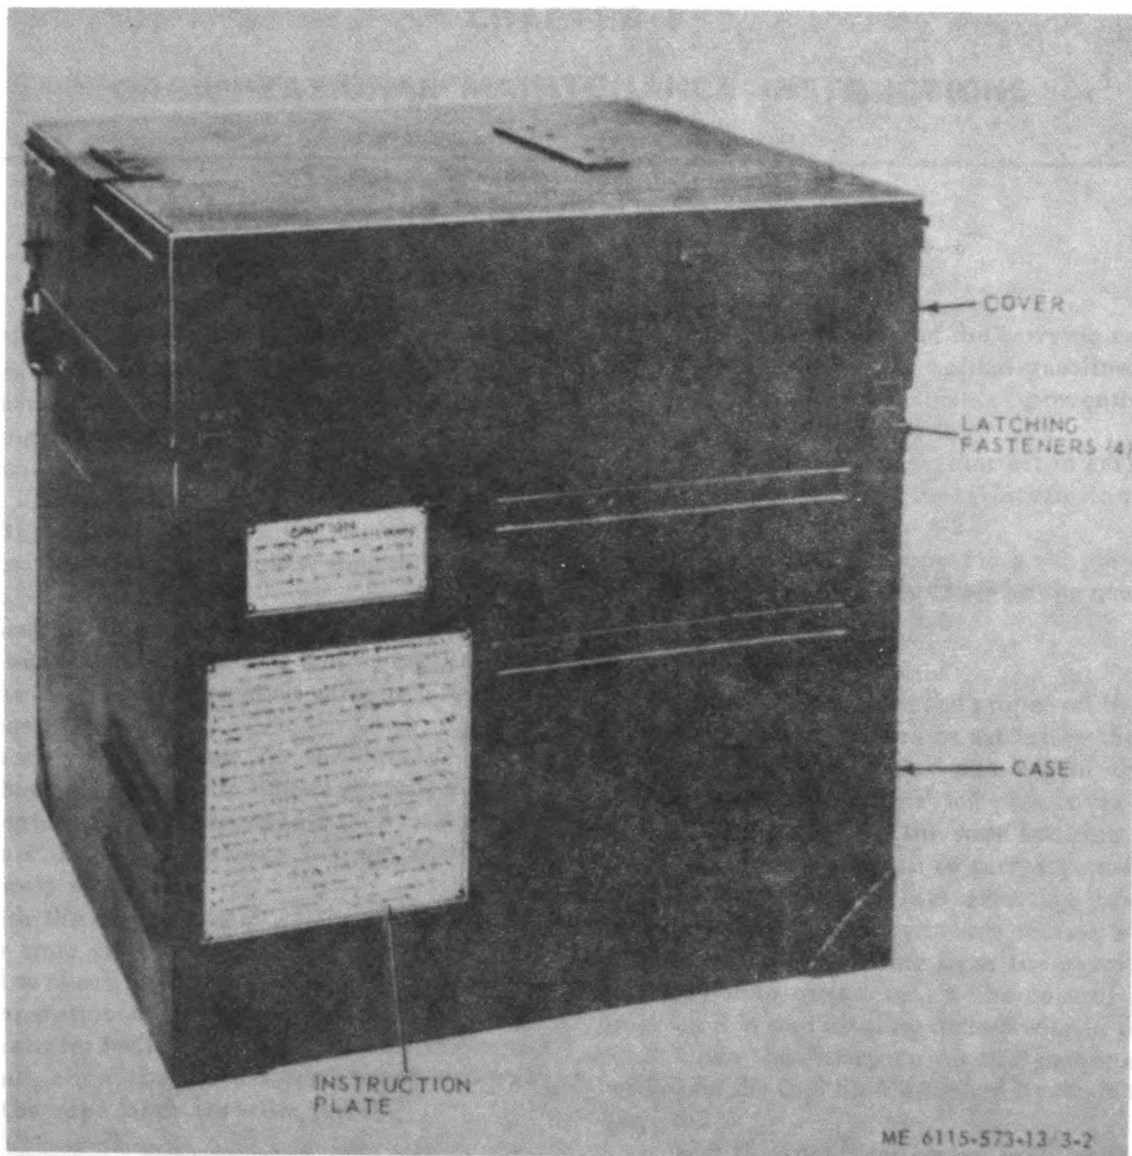

Figure 3-2. Generator set carrying case.
a. *General.* The generator set is enclosed in a sound absorbing carrying case (fig. 3-2) consisting of a lower main case and a detachable cover. The inside of the case and cover are covered with a flexible sound absorbing material which must remain intact and undamaged. To remove the cover, lift the four latching fasteners and lift up the cover.
a. Remove the carrying case cover from the case by releasing the four latching fasteners (fig. 3-2) and lifting up the cover.